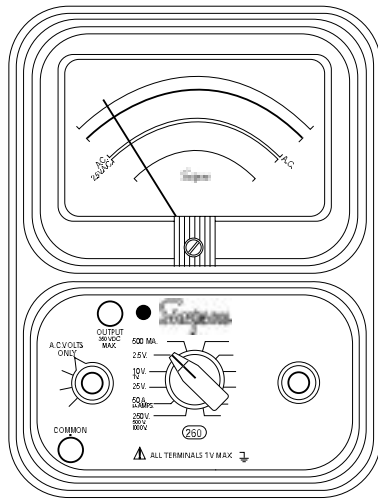

Figure 4-10. Jacks and Switch Positions for Output Measurements
- a. Set the function switch at AC Volts Only position. (Figure 4-10).